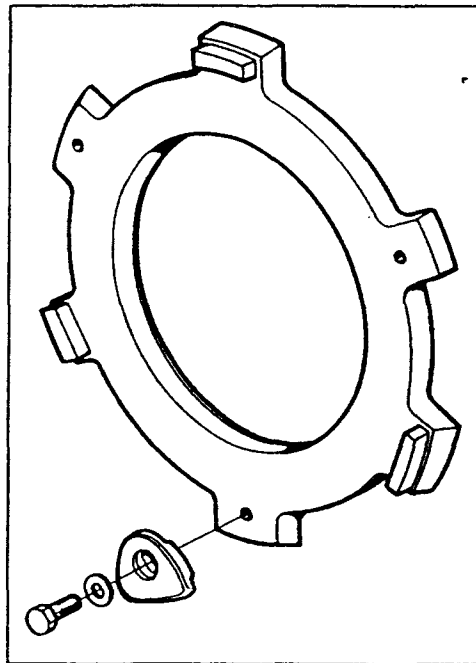

Fig.12
**#14009749 Dayton adaptor 24.5" (Fig.12).**